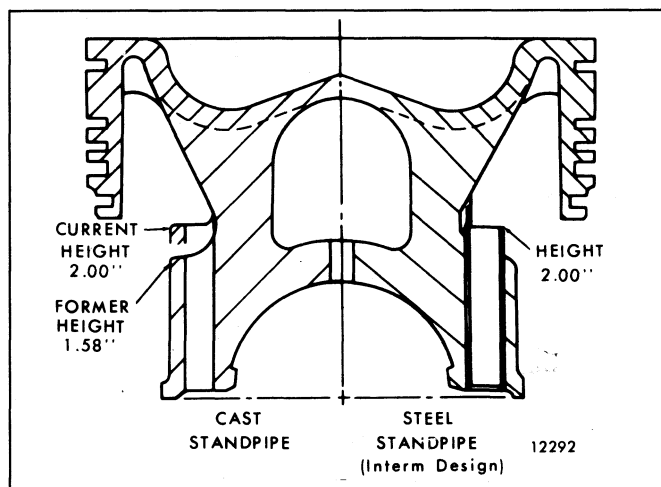

Fig. 11 - Piston Standpipe
- Effective with 1988-build engines, new high-strength crosshead piston domes are used, except on engines requiring 16:1 compression ratio domes with wide fire ring grooves. The new domes are similar to the former domes, except that they have a redesigned piston bowl strut configuration (Fig. 11). Among the changes to the domes are an increased blend radius of strut-to-upper piston pin saddle and the elimination of strut taper. Former and new domes are completely interchangeable and may be mixed in an engine.
The "standpipe" height in the current piston crown has been increased, thus raising the oil level in the piston to provide improved piston dome cooling. The former and revised piston crowns may be mixed in an engine. Current design pistons may be identified by referring to Figs. 11, 12 and 13.